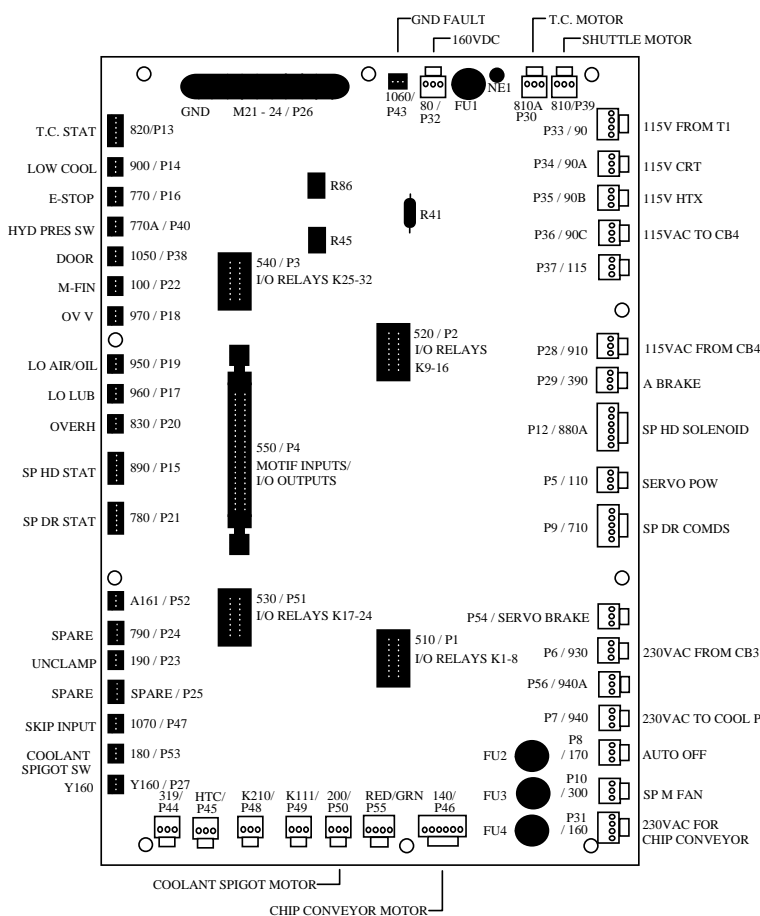

Fig. 4-6 I/O board.
4. Disconnect all leads to the Servo Driver (DRIVER) board that you wish to replace. Ensure all cables are properly labeled for reconnecting later. Figure 4-6 shows all cable numbers and the locations on the DRIVER boards (X, Y, Z, A).
7. Reconnect all leads to the I/O board at this time (refer to Fig. 4-6 for proper connections)